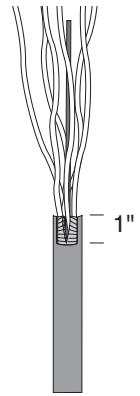

Figure 2
5. If you are using a B-Bond clamp on double-armored cable, remove a 1" square section of the outer cable sheath around the tab. (Figure 2) Slide the lower plate of the bond clamp under the inner shield so that the stud bolt sticks up through the tab.